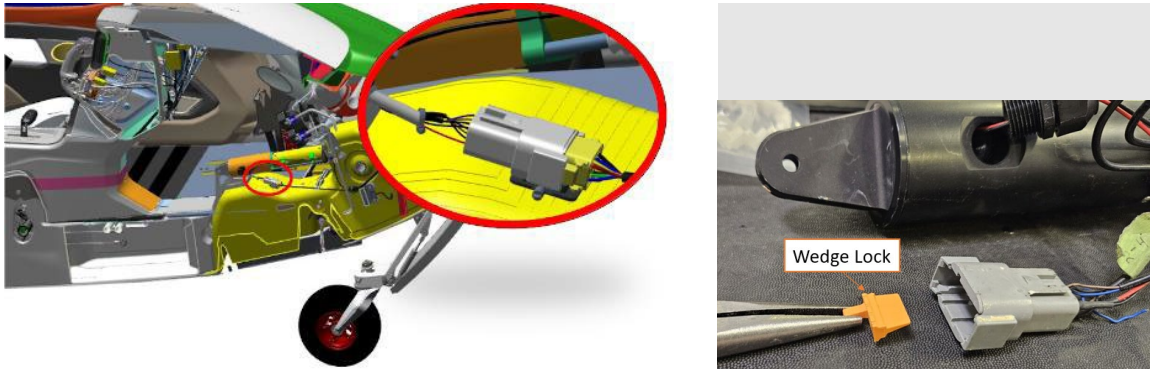

Figure 5. NLG Connector D9024J, Wedge Lock (orange)
1. If replacing actuator, disconnect bolts, worm drive hose clamp, and boot in accordance with Aircraft Maintenance Manual section 100425. Cut zip tie around NLG connector and disconnect the NLG connector D9024J. (Reference **Figure 5**.) Skip to Repair step **7**.
- a. Cut zip tie around NLG connector and disconnect the NLG connector D9024J. (Reference **Figure 5**.)
- b. Remove Wedge lock from actuator-side connector body. (Reference **Figure 5**.)